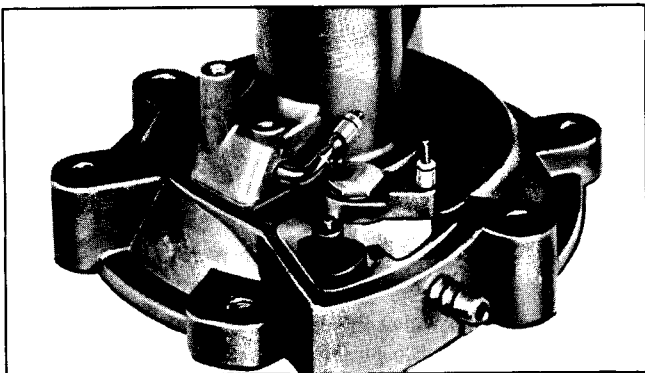

Fig. 4-41 Distributor Valve Assembly
1. Remove screw, washer, distributor arm assembly, washer and distributor valve bushing (Fig. 4-41).